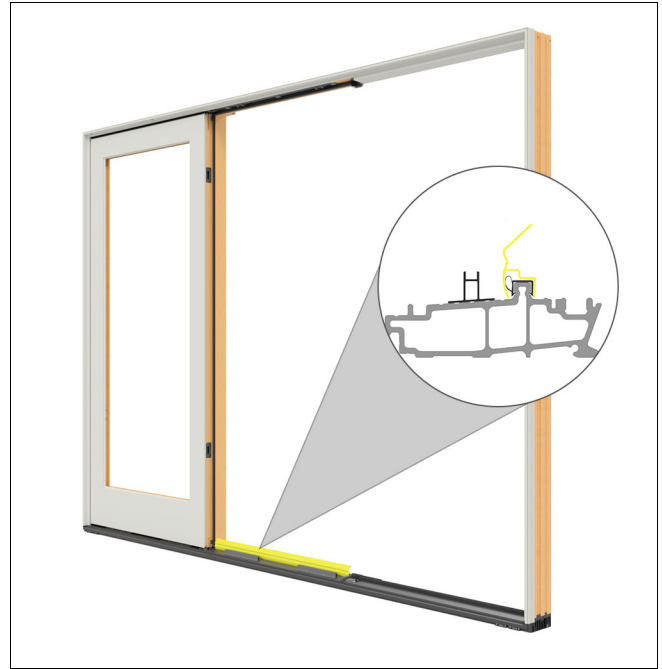

Figure 56
10. Remove the weatherstrip jig from the exterior side and install on the interior side. See Figure 56.